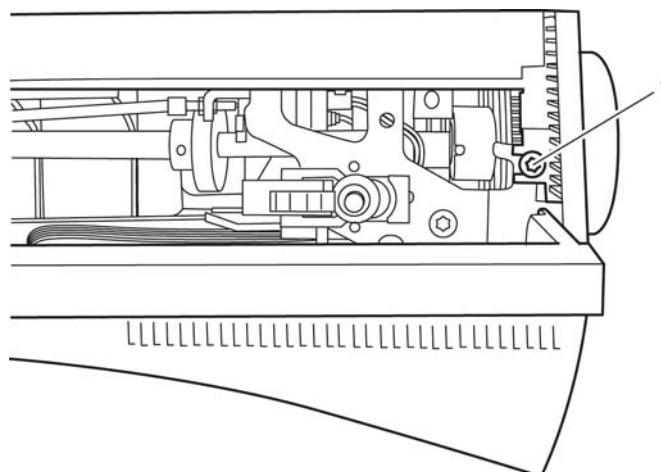

Fig. 48a
- Remove screw 1 from the stand lid (Fig. 48a).